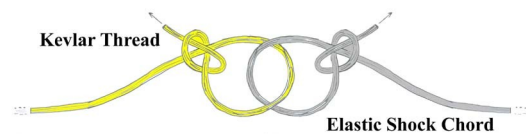

Figure 6
- **Step 13** Push the Kevlar thread back up through the body tube and out the top end. As shown in Fig. 6, tie a slip knot in the free end of the thread, then slip one end of the elastic shock chord through this loop, and tie a slip knot in this end of the elastic. Pull the knots tightly against each other, and secure the knots with a layer of thinned glue. Allow to dry. Attach the free end of the elastic to the barrel end of the remaining snap link.